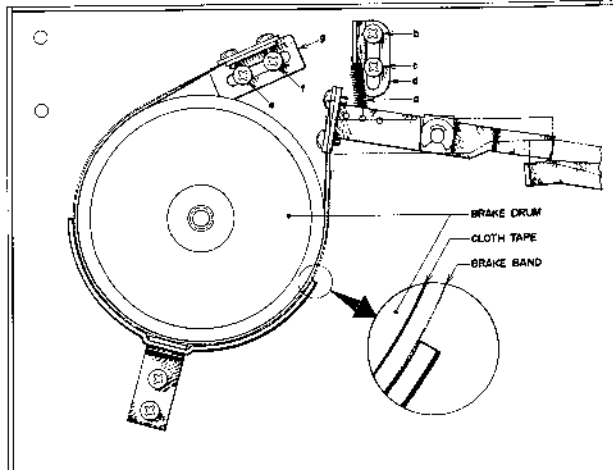

Fig. 18
- 2) Brake tension adjustment can be made as follows: (Refer to Fig. 18)
- d) Only the left side is shown in Fig. 18, but the right side must be adjusted in the same way.
NOTE: In making brake tension adjustment, on all modes except stop mode, confirm that the brake band completely separates from the cloth tape on the brake drum. (Refer to Fig. 18)